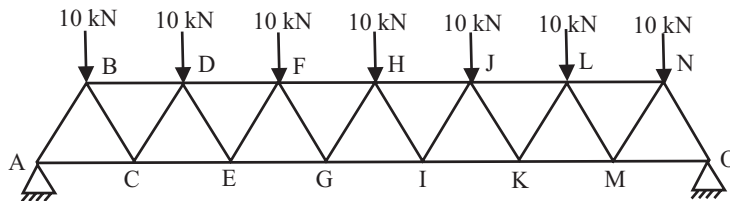

Fig 4
Q.4. Determine the forces in the member FH, HG and GI in the truss shown in fig 4. Each load is 10kN and all triangles are equilateral triangles. Using section method.